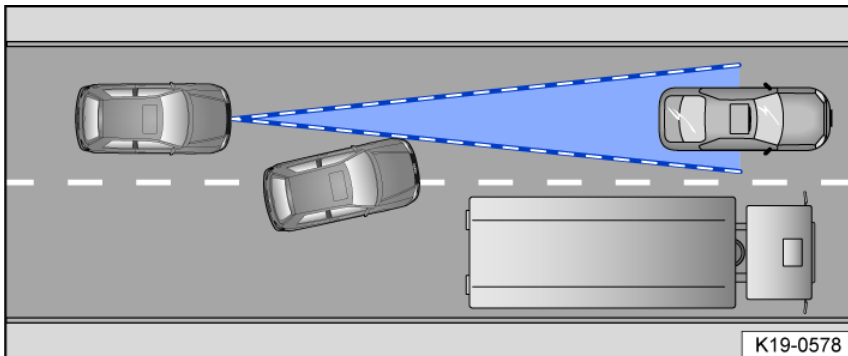

Fig. 112 Changing lanes.
- If vehicles change to your lane close in front of your vehicle fig. 112.